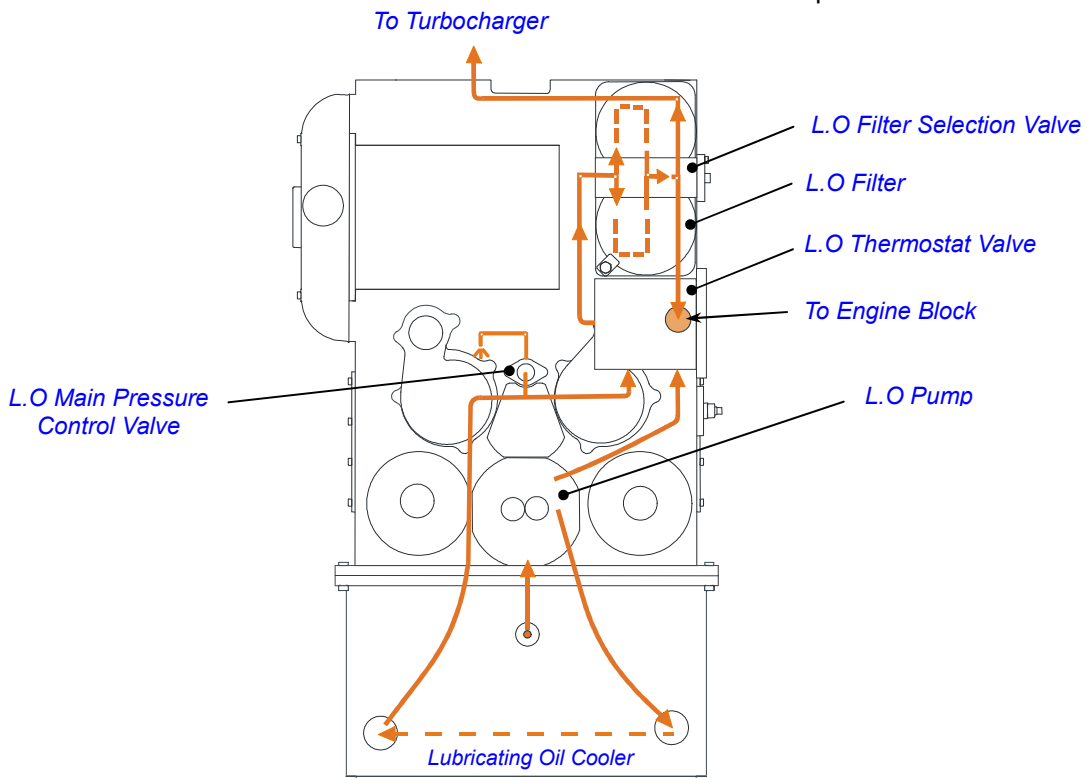

Fig.1 Circuit diagram for internal lubricating oil system (내부 윤활유 계통도)
2. Normally the filters are cleaned during operation by turning the handle,(1) see fig.1. on the filter housing top a couple of turns.(clockwise)
The lubricating oil (L.O) is pressurized by L.O pump from oil sump and flows into thermostat valve directly (uncooled) or via L.O cooler (cooled). The cooled and uncooled oil is mixed at the thermostat valve; hence the temperature of L.O is set to the prespecified value as shown in fig. 1.